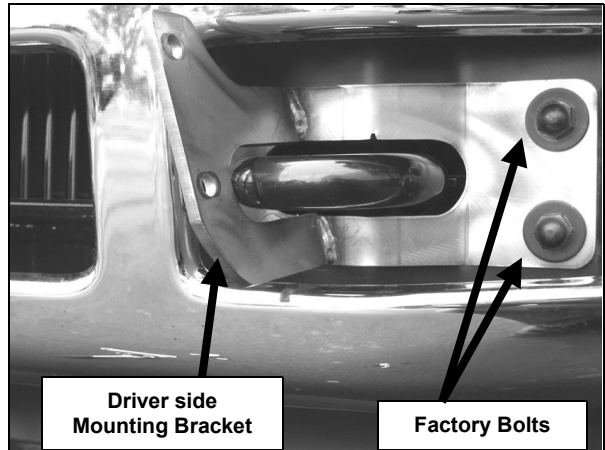

Figure 3
4. Place Mounting Bracket onto vehicle and line it up against the outer gusset bend on the frame. Leave about 1/8" clearance between bottom of Mounting Bracket and bumper. Secure Mounting Bracket to vehicle using the factory bolts (Figure 3). Fully tighten these bolts at this time.